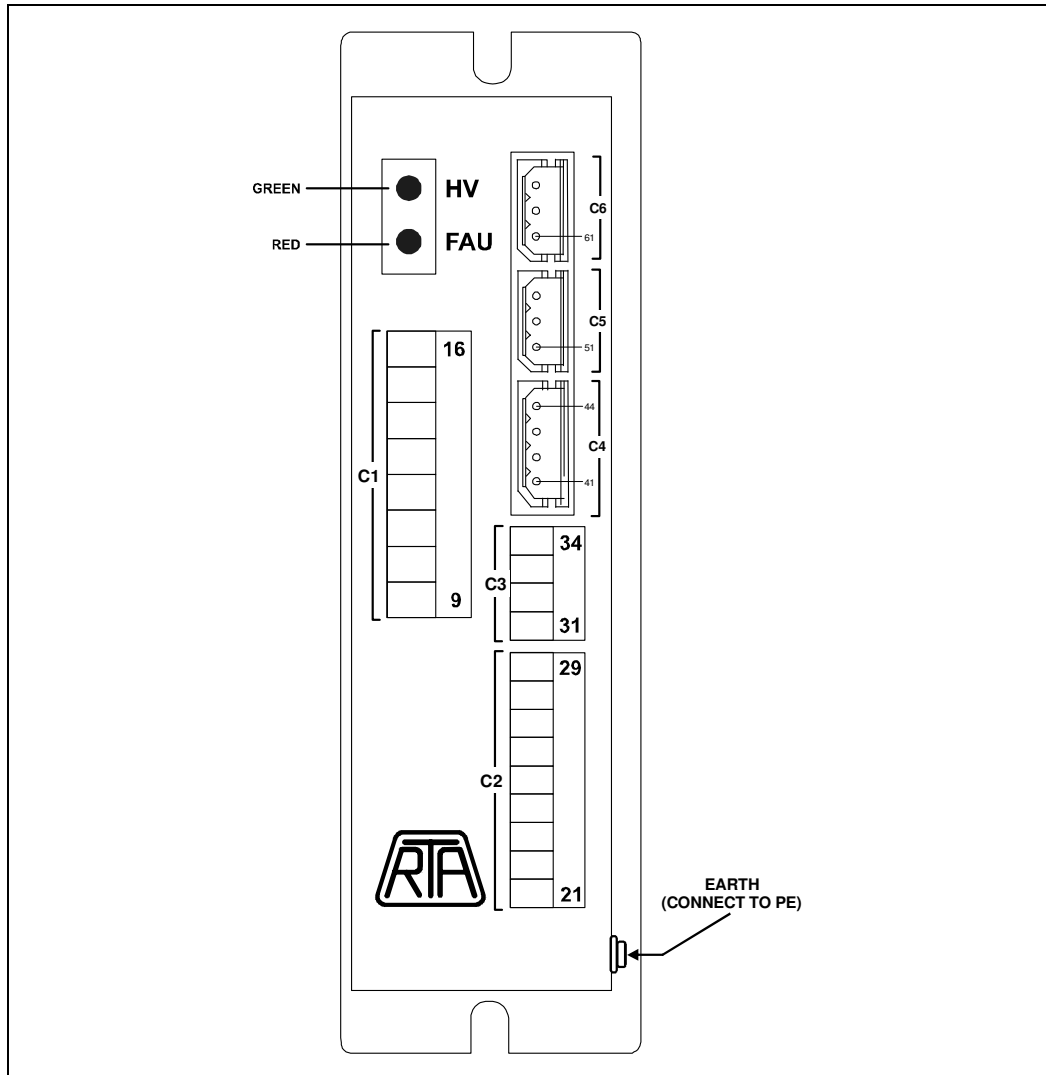

Figure 7 – Led and connectors.
5.2. Earth terminal – Earth terminal is on the lateral side of the box as showed in Figure 7 and has to be electrically connected to earth (PE terminal of the machine in which the drive is installed).
5.3. The terminal indicated as GND is the point of motor-drive system that has to be connected to earth (PE terminal) in order to guarantee the correct operation of some drive protection systems. No other point at a different potential of logic circuit and of power circuit has to be connected to earth; in particular has not to be connected to earth transformer secondary winding. Shield of shielded cables of motor outputs must be connected to terminal 16 of C1 connector and shield of shielded cables of signal outputs must be connected to PE with connection with the less possible length. Furthermore it is important to note that GND terminal is internally connected to terminal 16 of C1. See connection schemes of Fig. 7, 15 and 16.
- 6.2. Figure 7 shows the position of alert LED and connectors on the case of CSD J series drives.